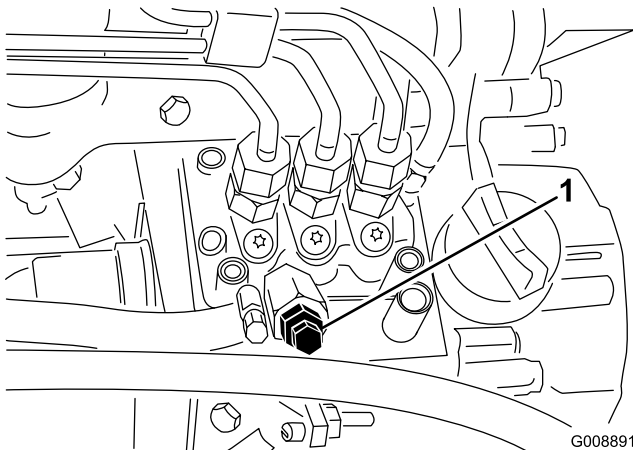

Figure 23
3. Open the air bleed screw on the fuel injection pump (Figure 23).